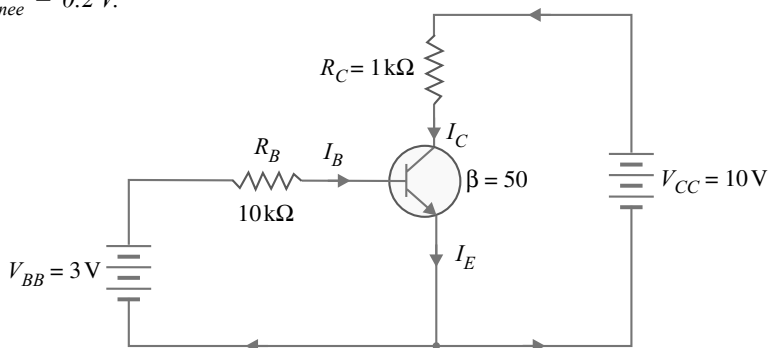

Fig. 6.58
**Example 6.40.** Determine whether or not the transistor in Fig. 6.58 is in saturation. Assume  $V_{knee} = 0.2 \text{ V}$ .